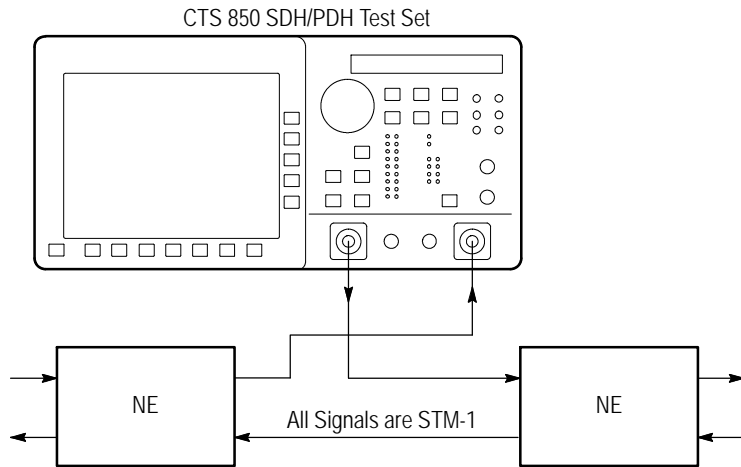

Figure 3 7: Setup to Monitor Performance
1. Connect the CTS850 in line with an optical signal as shown in Figure 3 7.